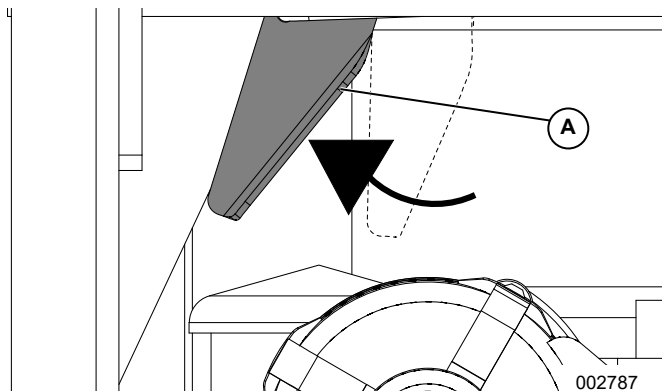

Figure 2-9. Primary Hood Latch
3. See Figure 2-9. Pull lever (A) to release primary hood latch.